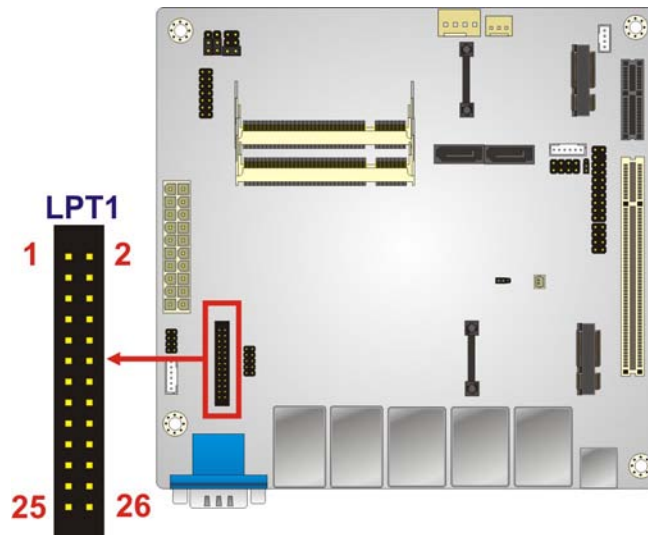

Figure 3-9: Parallel Port Connector Location
- CN Location: See **Figure 3-9**